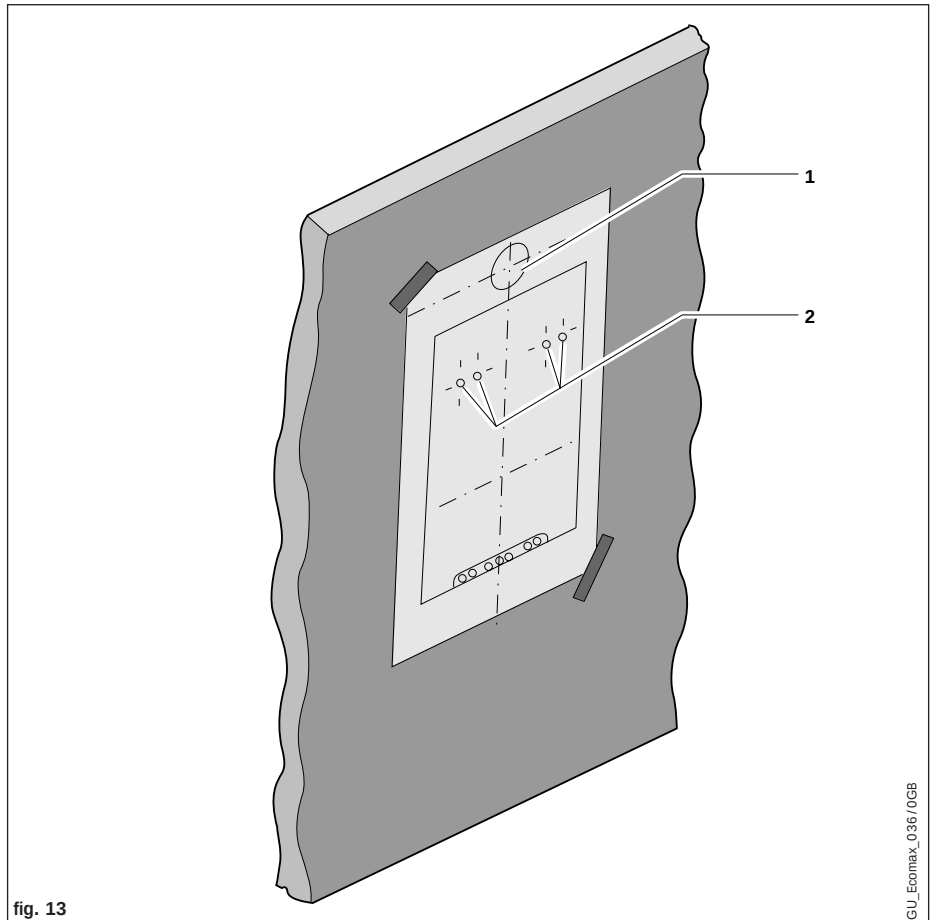

fig. 13
4.3.2 Using the boiler template (fig. 13)
Mark on the wall the position of the hanging bracket fixing holes (2, fig. 13). Drill 2 holes Ø 8 mm for the hanging bracket.
Mark the position of the centre of the air/flue duct and its circumference, e.g. by drilling through the template (1, fig. 13).